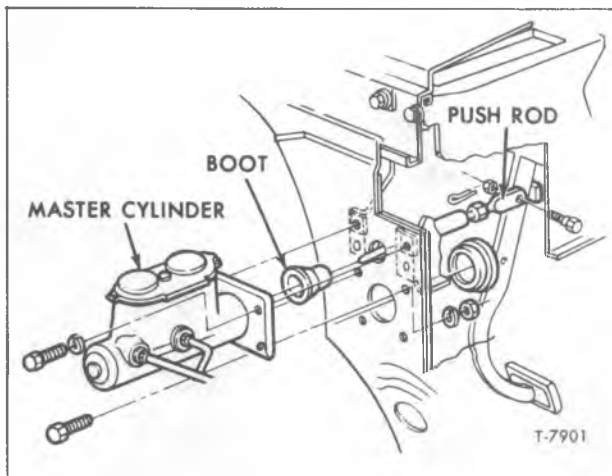

Figure 12—Split System Master Cylinder Installed
**"S" MODELS AND CONVENTIONAL (SPLIT MASTER CYLINDER)**Removal (Refer to Fig. 12)
Installation (Refer to Fig. 12)